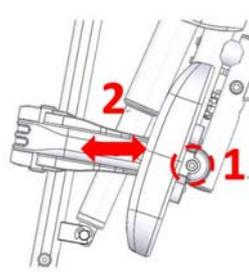

Figure 5-25
- Use the #6 Allen Key Wrench to remove the screw and adjust the calf support forwards or backwards. (Figure 5-25) Re-tighten the screws.